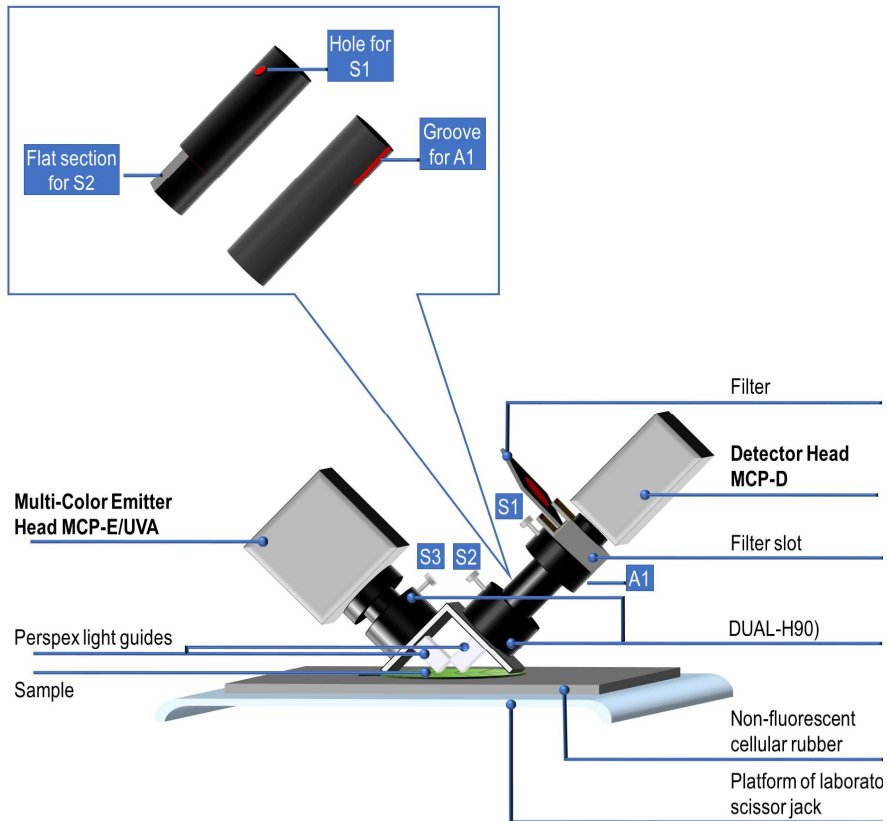

Fig. 3: DUAL-H90 Holder with Measuring Heads.
1. Mount DUAL-H90 on a lab stand. See Fig. 3 (overleaf). Place below lab scissor jack with rubber foam mat.
2. The black metal tube to connect the Detector Head MCP-D with the DUAL-H90 holder has different ends (Fig. 3, callout). Insert the end with hole for plastic screw (S1) and groove for Allen screw (A1) in the MCP-D. The hole for the plastic screw S1 must be positioned beneath the corresponding hole of the adapter ring in which the metal tube was inserted. Fix tube with Allen screw.
4. Insert black metal tubes of MCP-D and MCP-E in opposite ports of the DUAL-H90 (Fig. 3) until the lower edges of both Perspex light guide are about 5 mm above the sample level. Fix with plastic screws S2 and S3.